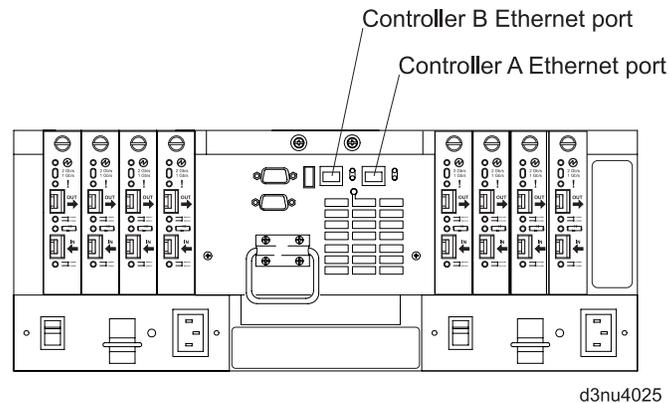

Figure 104. Fan and communications module ports
1. Disconnect all Ethernet interface cables from the failed fan and communications module (see Figure 104 for locations of the ports).